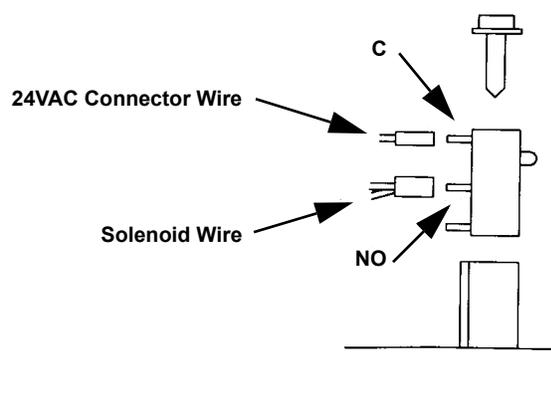

FIGURE 2
9. Connect valve switch wires to snap action switch, with solenoid wire attached to the normally open (NO) terminal and the single red wire attached to the common (C) terminal. Insert snap action switch into valve body and secure with screw (see Figure 2).